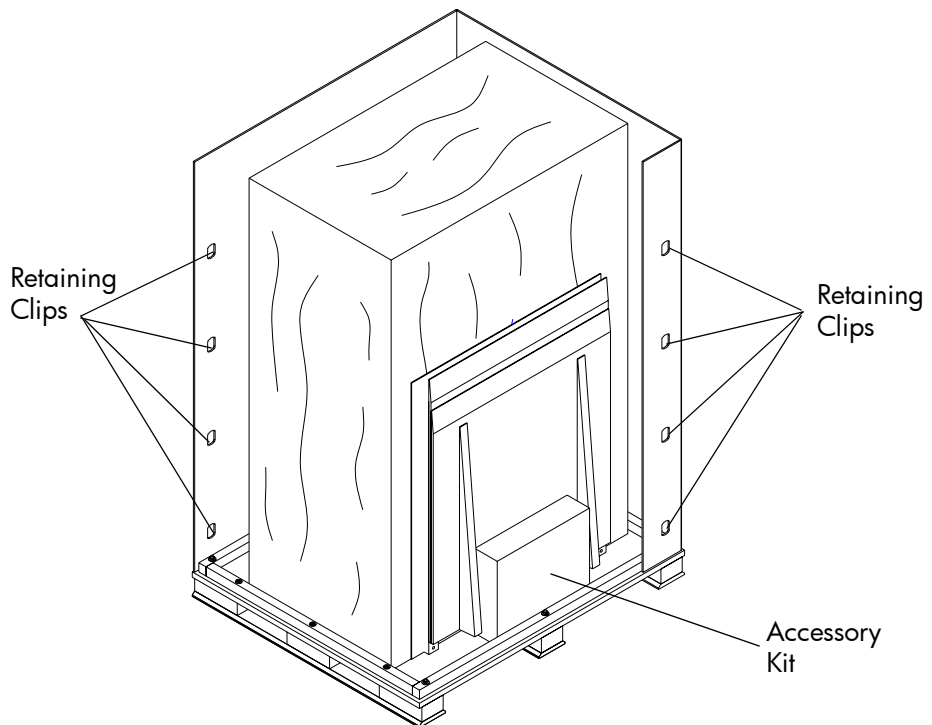

Figure 7: Removing the cardboard box
5. Remove the eight cardboard box retaining clips and unwrap the cardboard box from around the library (see Figure 7).
6. Remove the accessory kit from in front of the pallet ramp (see Figure 7). Set it aside for later use at the installation site.